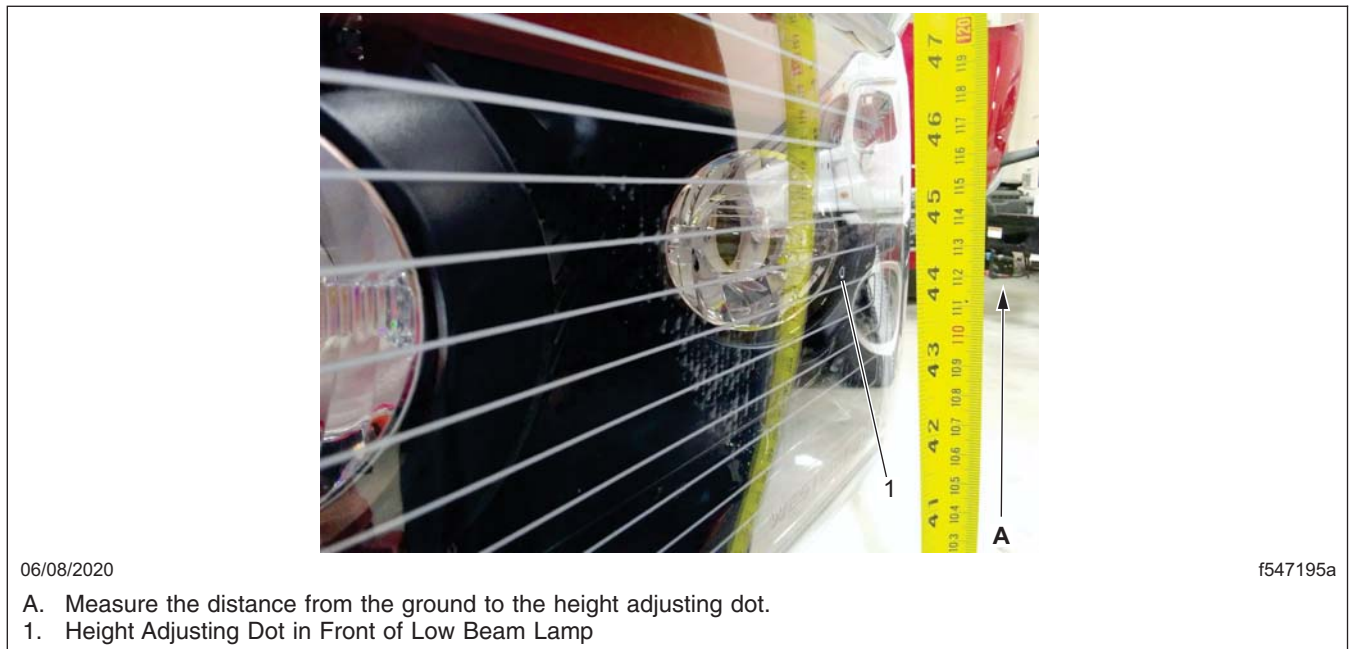

Fig. 20.1, Measuring From Ground to Height Adjusting Dot
2. Each headlight has a height adjusting dot on the lens in front of the low beam lamp. See Fig. 20.1. Measure the distance from the ground to the height adjusting dot on each headlight and make a note of these measurements.